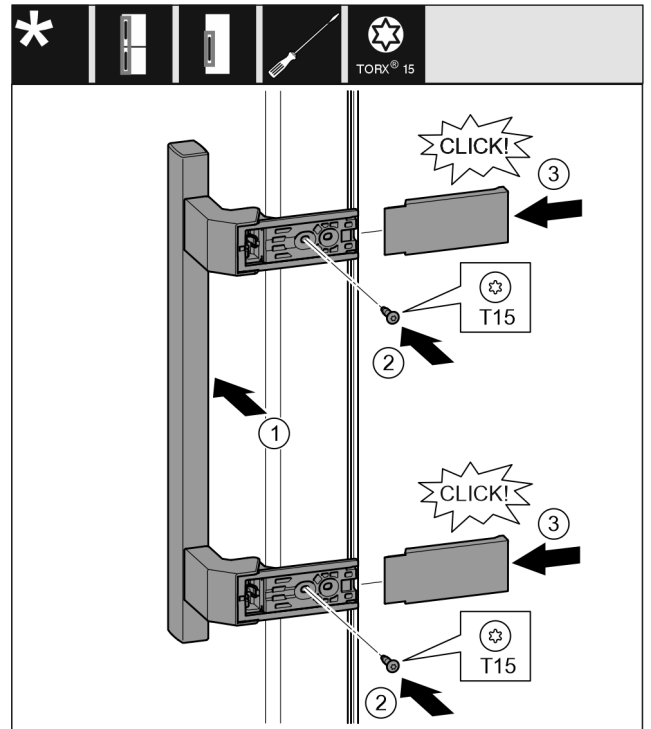

Fig. 18
- ▶ Position the handle on the other side. Fig. 18 (1)
- ▶ Tighten the screw with a T15 screwdriver. Fig. 18 (2)
- ▶ Position the covers on the side and push them on. Fig. 18 (3)